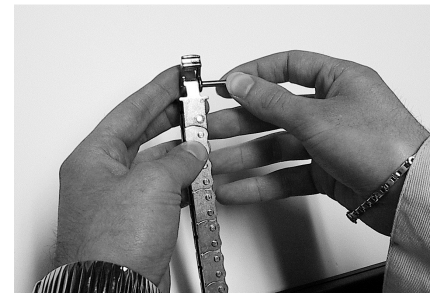

Figure 9
H. Complete assembly of the chain terminal with the rapid release hook inserted onto the provided pin  $\text{Ø}4 \times 32$  in median position (Fig. 9).